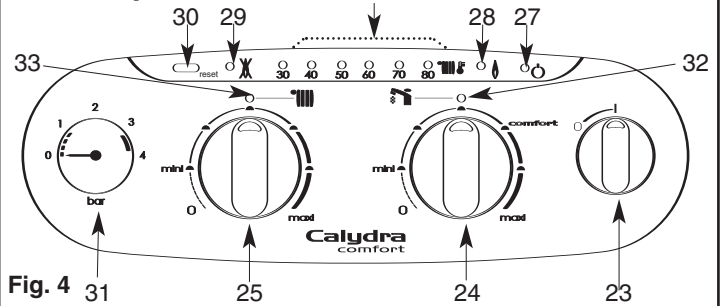
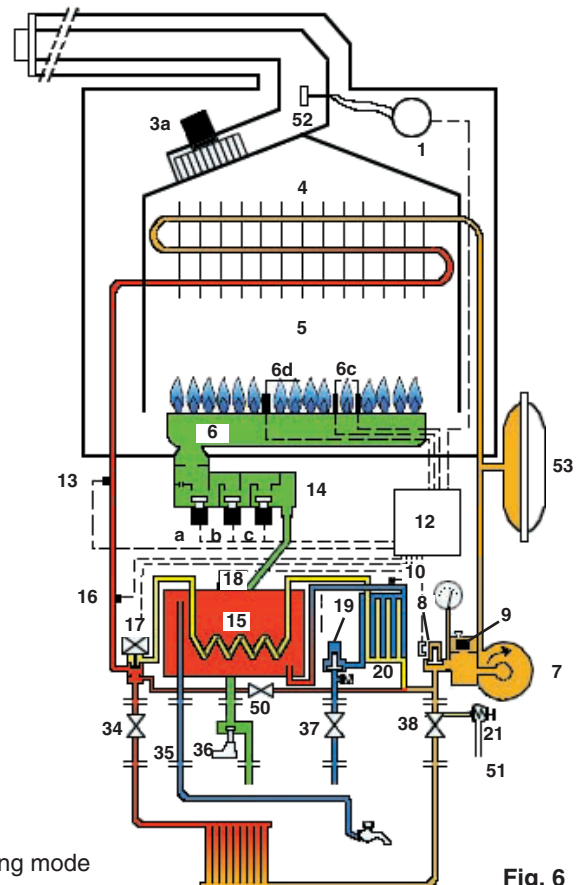

Fig. 4
Fig. 6
In order to supply hot water, the main switch **23** (fig. 4) must be in ON position **I**. This will be confirmed by the green indicator light  $\odot$  **27** (fig. 4). Turn DHW temperature adjustment knob **24** clock wise to establish the green DHW indicator **32** (fig. 4).
The hot water temperature in the mini cylinder can be adjusted between 40 and 60°C using control knob **24** (fig 4).
When a tap or shower is turned on, the flow of mains water, above 2 litres per min., will activate the 3 way valve **17** (fig. 4) to move to the DHW position. The pump will now circulate primary water heated by the main heat exchanger through the secondary heat exchanger.
The first stage solenoid **a** (fig. 6) and safety solenoid **c** (fig. 6) open together to allow gas to the burner. The ignition sequence begins and a continuous high speed spark
ignites the gas. As soon as a flame is detected the orange indicator bulb  $\uparrow$  **28** (fig.4) will light and the second stage solenoid **b** (fig. 6) opens to allow the full gas rate. If a flame is not detected, after 8 seconds, the security solenoid closes and shuts off the gas. The red lockout indicator bulb  $\times$  **29** (fig.4) will show. Over 2 l/min, the domestic hot water temperature is controlled by the hot water control thermistor **9** (fig.6) and the heating control thermistor **16** (fig.6), but dependant upon to the position of the DHW temperature adjustment knob **24** (fig.4). This system anticipates the changes of temperature in the secondary heat exchanger and ensures accurate temperature regulation.
When the boiler has been in standby in Hot Water Mode for some time or when drawing DHW at flow rates of less than 2 l/min the temperature in the mini cylinder will eventually decrease and the TSS® control thermistor **18** (fig.6) will call for heat. Bringing the pump and burners to operate, until the cylinder thermistor is satisfied. this is quite normal.
To be able to supply heating, the main switch **23** (fig.4) must be in **I** position. This will be confirmed by the green indicator light  $\odot$  **27** (fig.4.) Turn the temperature control knob **25** clock wise to establish the green heating indicator **33** (fig.4).
When there is a demand for heating (either from the room thermostat or the clock) and the boiler temperature control is calling for heat. The pump starts allowing the ignition sequence to begin. The first stage solenoid **a** (fig.6) and safety solenoid **c** (fig.6) open together to allow gas to the burner. The ignition sequence begins and a continuous high speed spark ignites the gas. As soon as a flame is detected the orange indicator bulb  $\uparrow$  **28** (fig.4) will light. After 45 seconds the second stage solenoid **b** (fig.6) opens to allow the full gas rate. If a flame is not detected, after 8 seconds, the security solenoid closes and shuts off the gas. The red lockout indicator bulb  $\times$  **29** (fig.4) will show.
The central heating flow temperature is controlled by the central heating control thermistor **16** (fig.6). The boiler has been designed to minimise cycling and will not attempt to relight for at least 3 minutes after the boiler thermostat has been satisfied (it is possible to reduce the time to 30 s if necessary). When the room thermostat is satisfied the burner will switch off and the pump will remain running for a further 4 minutes before it to stops.
**NB :** It is possible to override the 3 minute delay by pressing the RESET button **30** (fig. 4)